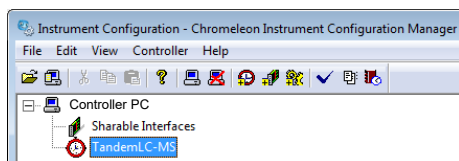

Figure 3: New Instrument
- a. If a Vanquish Dual Pump is present, choose **HPLC: Vanquish** followed by **Vanquish Dual Pump**. Rename the pump devices and signal names according to their functionality. E.g. **ReconditioningPump** for the left pump device and **AnalyticalPump** for the right pump device (Figure 3).